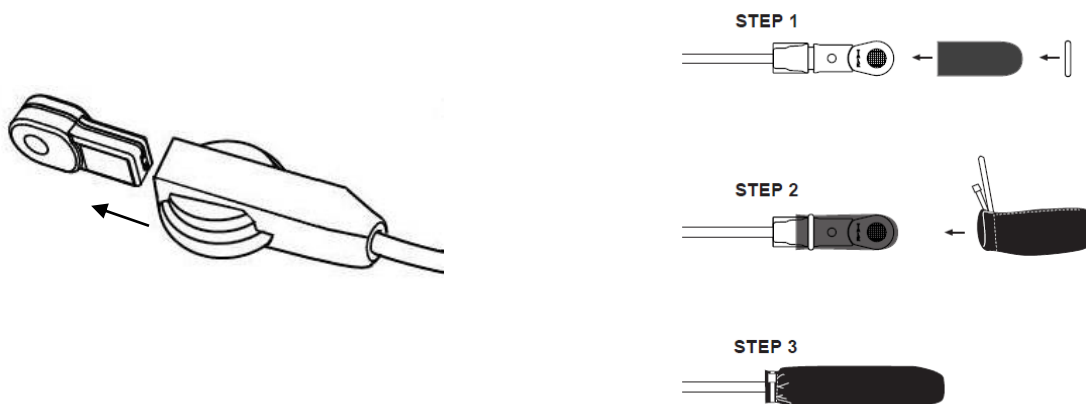

Figure 8: Microphone Removal; Windscreen Kit Install
- 3.) **To remove the M-2H microphone**, simply grab the top and bottom of the microphone firmly between your thumb and forefinger, and pull out assertively from the boom bracket. **Do not use pliers, as this can cause damage to the microphone** (see Figure 8)
- 5.) **To install a new mic windscreen kit**, with microphone installed, fit the foam windscreen completely over the microphone (note: if a high-wind mic cover kit, fit concentric foam screens over the microphone) (see Figure 8)